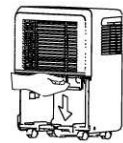

Fig.12
- First remove the bucket and pull filter downwards to remove. (Fig.12)